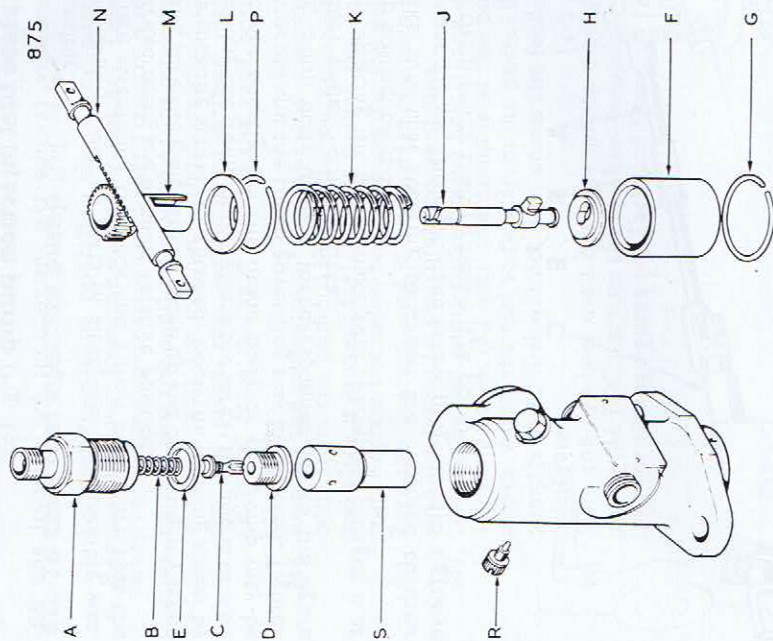

Fig. 15
58. To dismantle fuel injection pump (Fig. 15)
60. To replace fuel injection pump (Fig. 15)